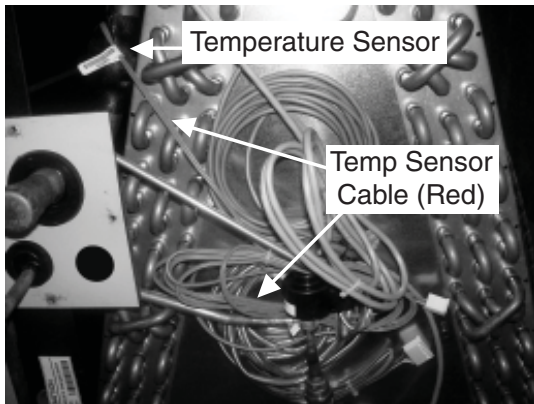

Figure 3. Suction Line Temperature Sensor and 2-Wire cable in iQ Drive Coil Assembly 919230E
- Suction line temperature sensor (covered with tar tape), with associated 2-wire cable (red wires) (Figure 3)